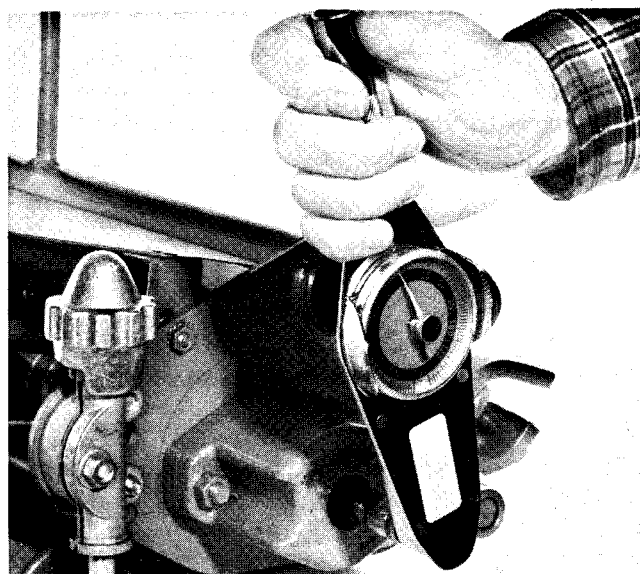

Figure 5
2. Reel bearing drag should not exceed 7 in-lb. This can be measured with a torque wrench (Fig. 5). If bearing drag does not meet above specification, adjust the reel bearings.